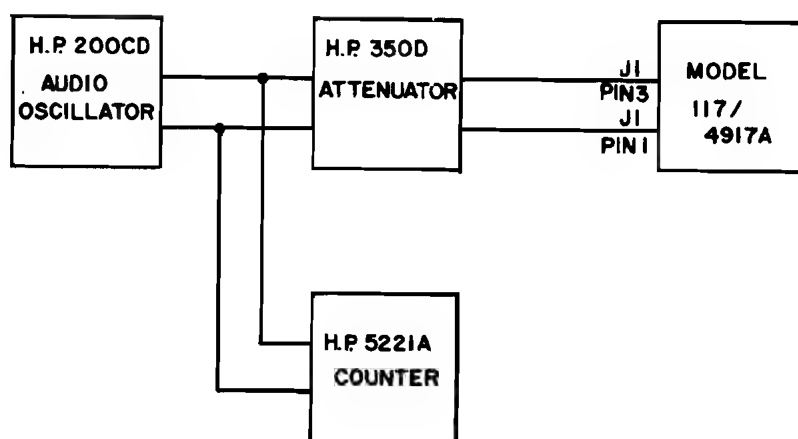
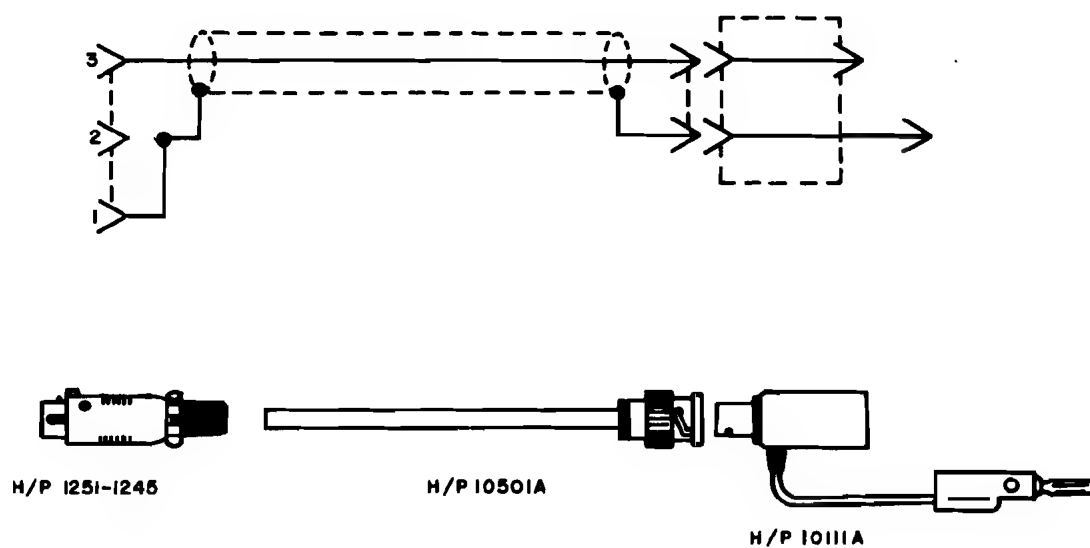

FIG. 4-1 TEST SET UP FOR OSCILLATOR FREQUENCY CHECK.
FIG. 4-2 RECOMMENDED TEST CORD FOR TESTING THE MODEL 117/4917A
- a. Figure 4-1 shows the recommended test setup. A wide range oscillator (HP Model 200 CD), a shielded attenuator (HP Model 350D) and an electronic counter (HP Model 5221A) are required to perform this test. Figure 4-2 shows the recommended test cord for use in connecting the attenuator output to the Model 117/4917A input.